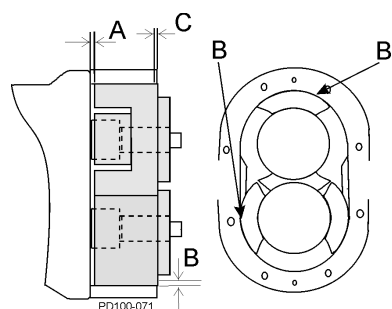

Figure 55 - Measure Clearance
9. Measure the rotor backface clearance (Figure 55, item A) through the port or from the front. The backface clearance for both rotors must be the same to prevent rotor crossover contact and must be ± 0.0005 of the value found in Table 6, "Standard Rotor Clearance," on page 38.
10. Check the rotor front face clearance (Figure 55, item C).
11. Check the rotor to body clearance (Figure 55, item B).